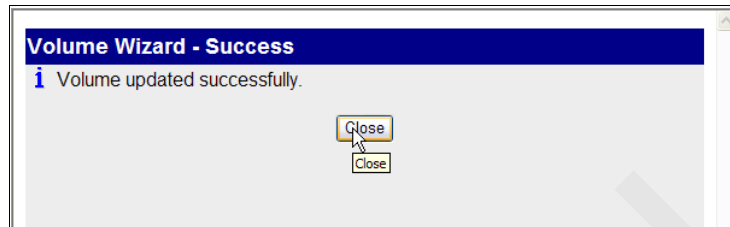

Figure 7-22 Confirmation of the volume creation
7. A message is displayed, as shown in Figure 7-22 on page 215, that tells you that the Volume updated successfully. Click **Close** to exit the wizard.